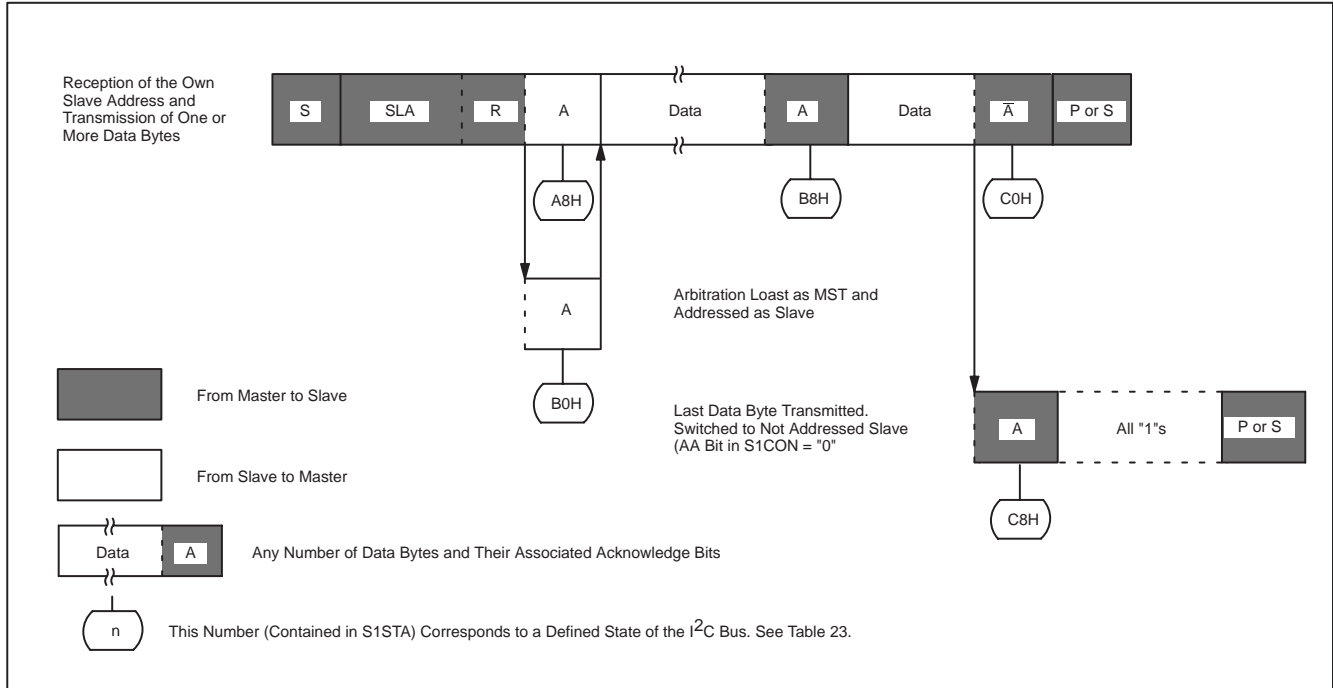

Figure 23. Format and States of the Slave Transmitter Mode
When SIO1 is in the addressed slave transmitter mode, state C8H will be entered after the last serial is transmitted (see Figure 23). When SI is cleared, SIO1 leaves state C8H, enters the not addressed slave receiver mode, and the SDA line remains at a high level. In state C8H, the AA flag can be set again for future address recognition.
In the slave transmitter mode, a number of data bytes are transmitted to a master receiver (see Figure 23). Data transfer is initialized as in the slave receiver mode. When S1ADR and S1CON have been initialized, SIO1 waits until it is addressed by its own slave address followed by the data direction bit which must be “1” (R) for SIO1 to operate in the slave transmitter mode. After its own slave address and the R bit have been received, the serial interrupt flag (SI) is set and a valid status code can be read from S1STA. This status code is used to vector to an interrupt service routine, and the appropriate action to be taken for each of these status codes is detailed in Table 23. The slave transmitter mode may also be entered if arbitration is lost while SIO1 is in the master mode (see state B0H).